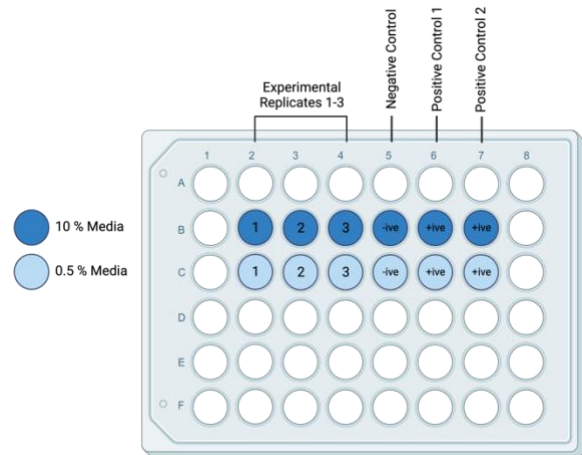

Figure 4-2 Example 48-well plate experimental layout
- a. This will serve as a positive control for dead staining. **This will be Positive Control 1 (See Figure 4-2)**